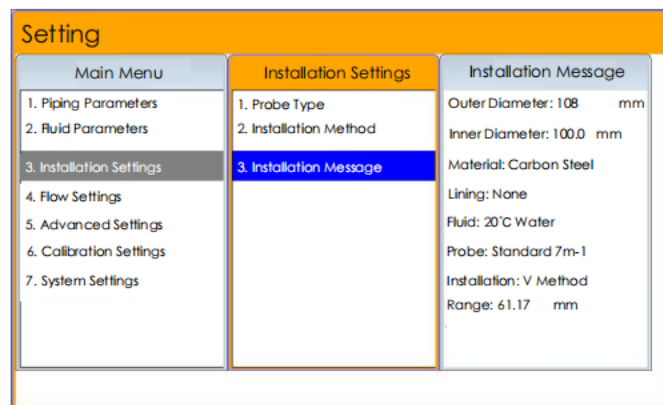

Figure 11 Installation Information View
8) Press ESC to return to the first level menu, select "installation settings", set the "probe type" and "installation", and then press  to select "installation information", you can view the installation information in the three-level menu location (Figure 11), the information bar displays the current settings of the parameters of the flowmeter and the probe installation distance (installation distance for the distance of the probe housing, Figure 11).